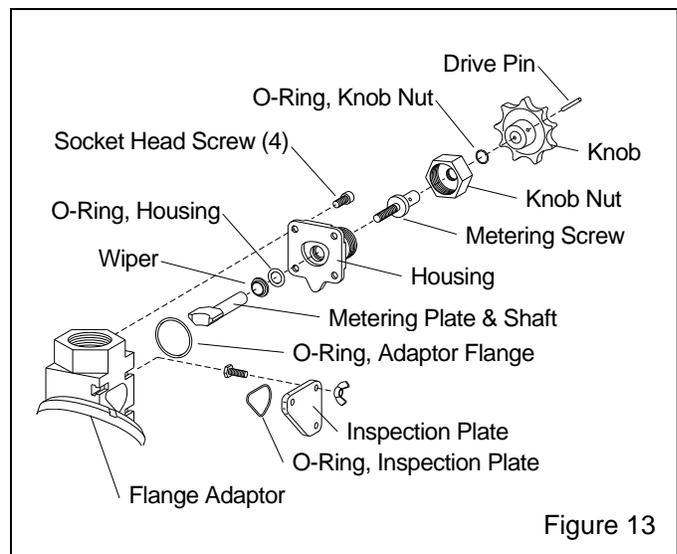

Figure 13
6.7.1 Metering assembly, Ref. Figure 13